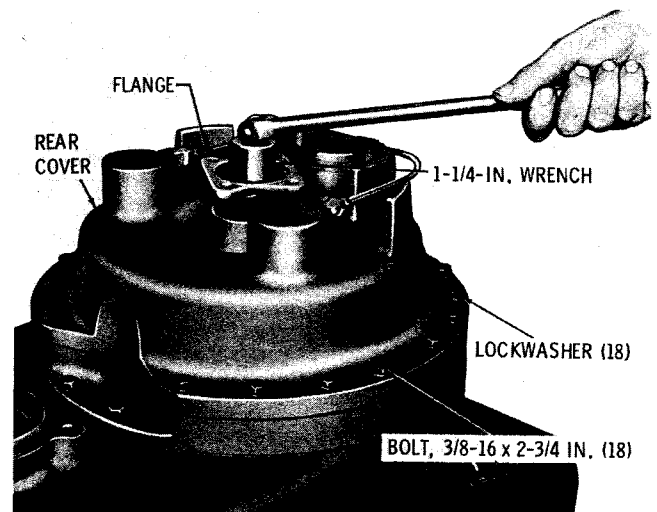

Fig. 5-22. Removing power takeoff flange nut (TTB 2221-1, 2421-1 with converter-driven PTO)
(1) Using a 1-1/4-inch socket wrench, loosen but do not remove the PTO flange retaining nut (fig. 5-22). Remove the eighteen bolts and lockwashers that retain the rear cover assembly. Spring force will push the rear cover upward.
(1) Remove the eighteen bolts and lockwashers that retain the rear cover assembly (refer to fig. 5-22). Spring force will push the rear cover upward.
(2) Attach a sling to the bolt flange of the rear cover, and remove the rear cover and attached parts. Refer to paragraph 6-21 for rear cover assembly rebuild instructions.